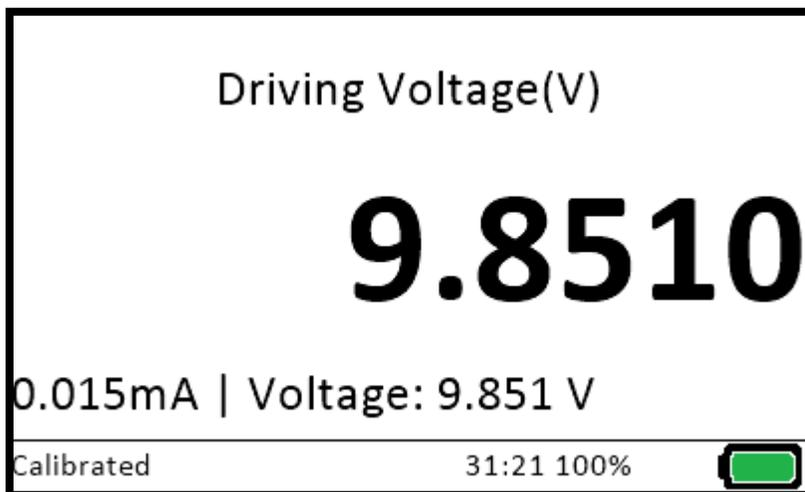

Figure 8. MAXREFDES183# voltage output calibrated.
- The next screen will show the setting that was typed in before (**Figure 8**). Below that, in smaller font, the current drawn at the UIO port as well as the measured voltage is shown. For example, if you short the output, the setting will still say 9.851V, while the readback should show approximately 0V.